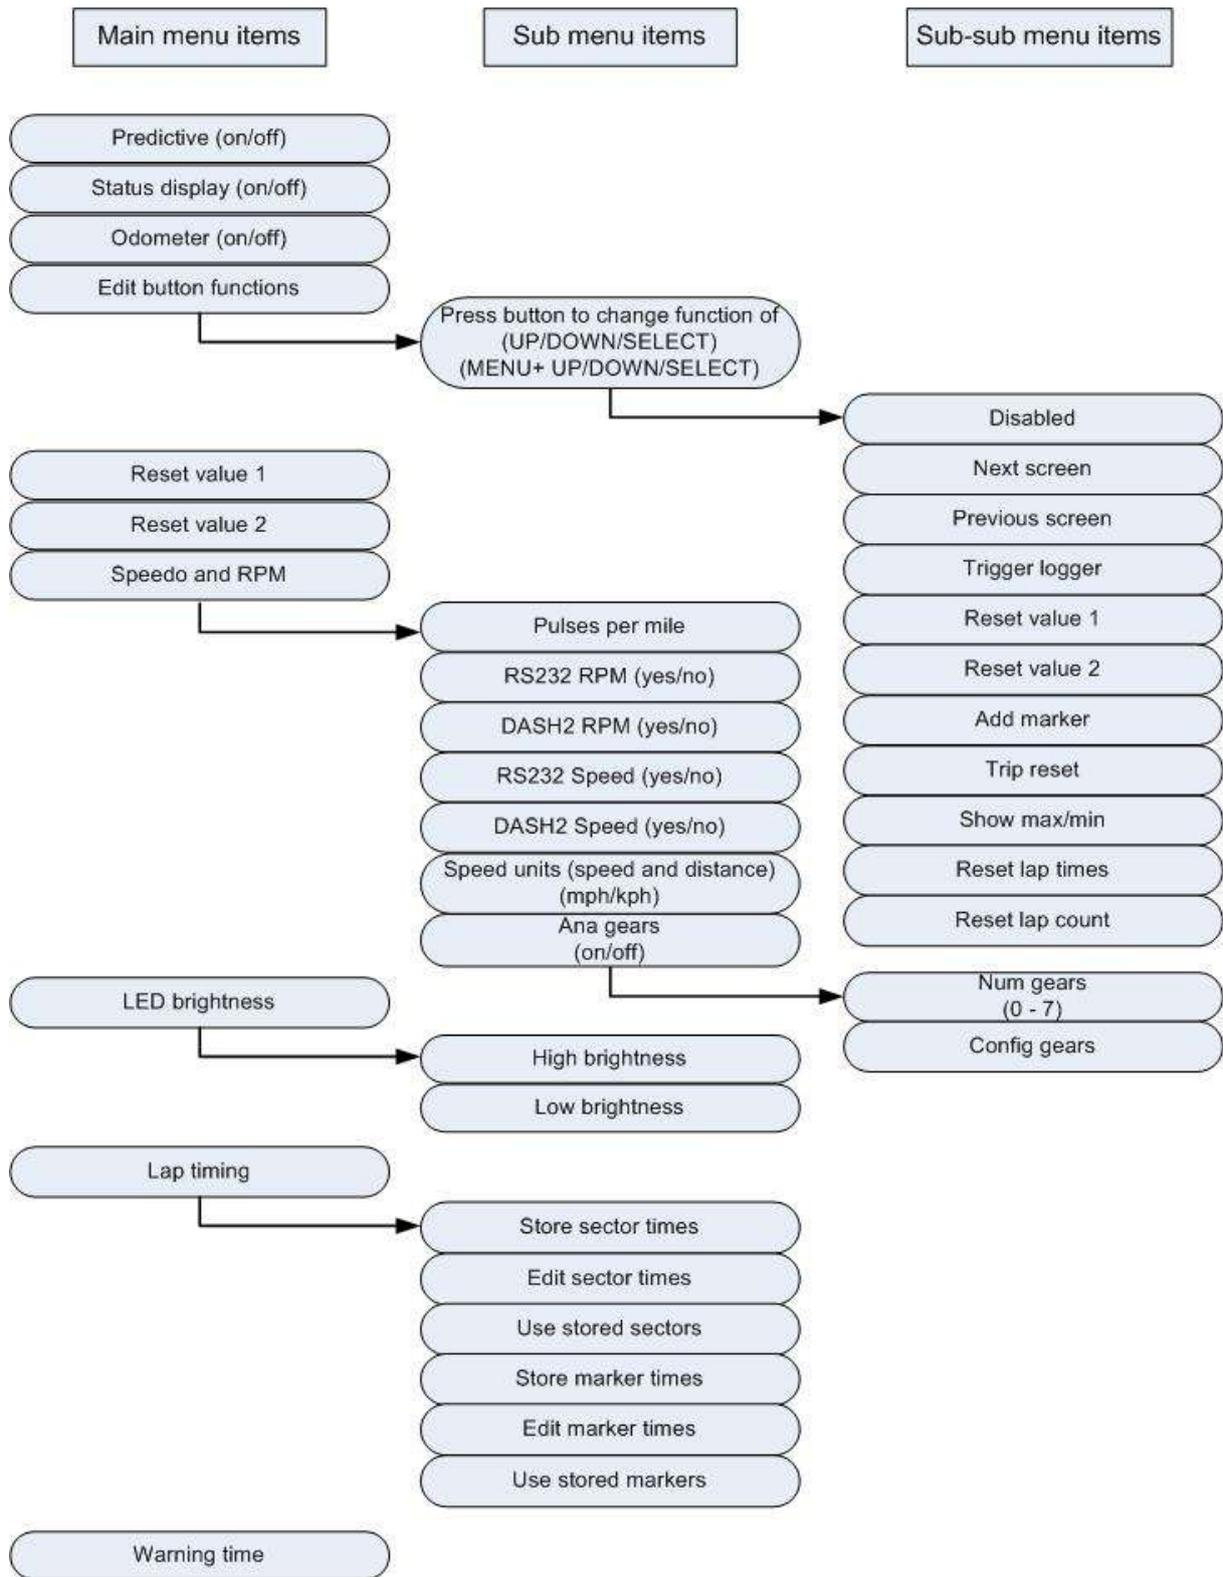

Figure 4: Menu system structure
Figure 4 illustrates the structure of the menu system. The following sections describe the details and operation of each function.
To edit function settings, display the function in question using the UP/DOWN buttons and press SELECT. Use UP/DOWN to change the function settings, then SELECT to save the new setting and return the DASH2 to its normal display mode. Several menu items also have sub-menus, as shown in Figure 4. In the case of the lap timing functions, first press SELECT to access the lap timing functions from the top level menu, then use the UP/DOWN buttons to display the required sub-menu item and press SELECT again to open the settings, followed by UP/DOWN to change the settings and SELECT to save the new settings and return to normal display mode. In the case of speedo and RPM settings, and LED brightness, press SELECT to access these items from the main menu, then use the UP/DOWN buttons to configure the setting for each item and the SELECT button to save each setting and move onto the next item on that sub-menu. When the last item on the sub-menu is reached pressing SELECT will return the DASH2 to the normal display mode. The normal display mode may also be reached, at any time, by pressing MENU.
The status of an attached logger can be displayed on the DASH2, with a tick mark in the top right hand corner, as shown in Figure 1. It is also possible to set the left hand shift light as a secondary, more highly visible logger status indicator. This is selected using the "Status display" option – item 2 in the DASH2 menu system (see Figure 4). When this mode is enabled, the left-most shift light operates as a logging status indicator. The remaining five shift lights operate as normal. In the top left corner of the display (see Figure 1), the DASH2 also has a binary symbol to indicate that serial communications are being received when the unit is used with a Race Technology data logger or other device, such as a PC.
There are five user-configurable screens of data that can be displayed on the DASH2. The data to display on each screen is selected using the DASH2 configuration program on the PC. Once the screens are configured, the programmable buttons can be used to select which screen to display. This enables toggling through the five screens of data. To set up a button to do this, see the section "Programming soft buttons" and assign the "Next screen" or "Previous screen" functions, as shown in Figure 4. When changing between screens, the screen number is briefly indicated at the bottom of the display.
change the function of. Press either SELECT, UP, or DOWN to access the three extra soft buttons, press and hold MENU, without releasing it, press SELECT, UP, or DOWN. The display will change to show which button is selected and the current function assigned to that button. The UP and DOWN buttons can then be used to select any one of 12 functions to assign to this button, as shown in the sub-sub menu in Figure 4. Press SELECT to confirm the button function and return to the main menu.
The DASH2 can store and display maximum and minimum values for each of its input channels. These values can be reviewed by setting one of the buttons to the "Show max/min" function as shown in the sub-sub menu in Figure 4. Refer to "Programming soft buttons" and set the button function to "Show max/min". Whenever this button is pressed it will temporarily replace the current three displayed channels with their maximum values. This display will be held for around five seconds, during this time, moving on to another display screen will reset the timer, thus enabling you to scroll through all display screens and view all maximum values. If the max/min button is pressed again during this time the screen will change to show the minimum values. A third press of the button will reset all Max/Min values.